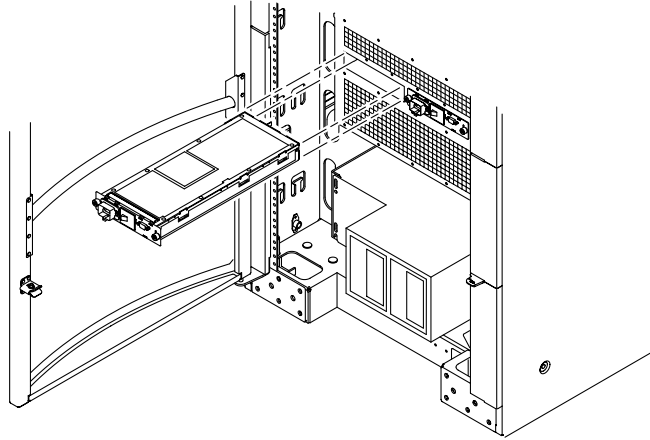

FIGURE 4-14 Removing the AC Input Box—Sun Fire 6800 System
5. Slide the AC input box out of the chassis (FIGURE 4-14).